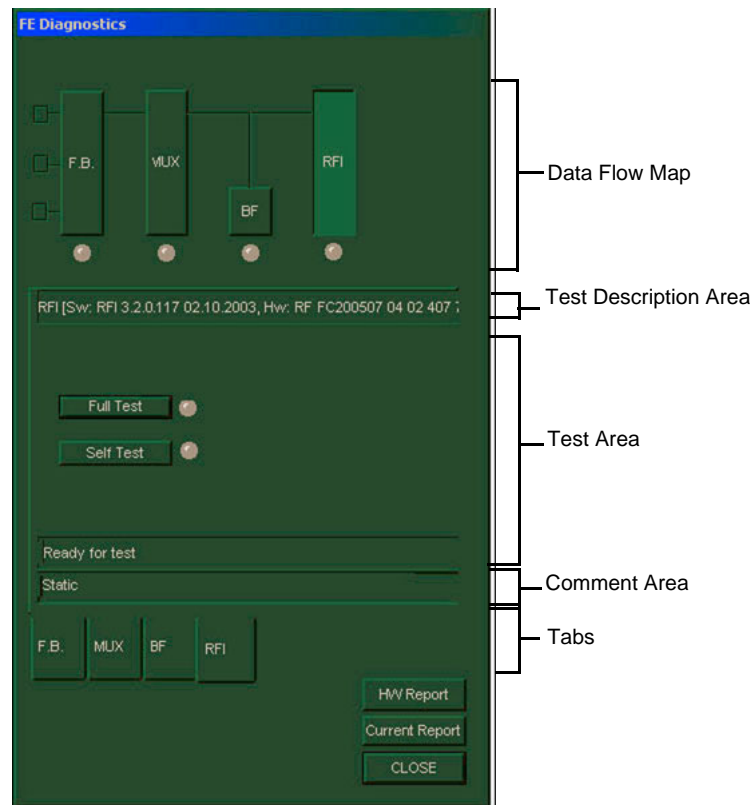
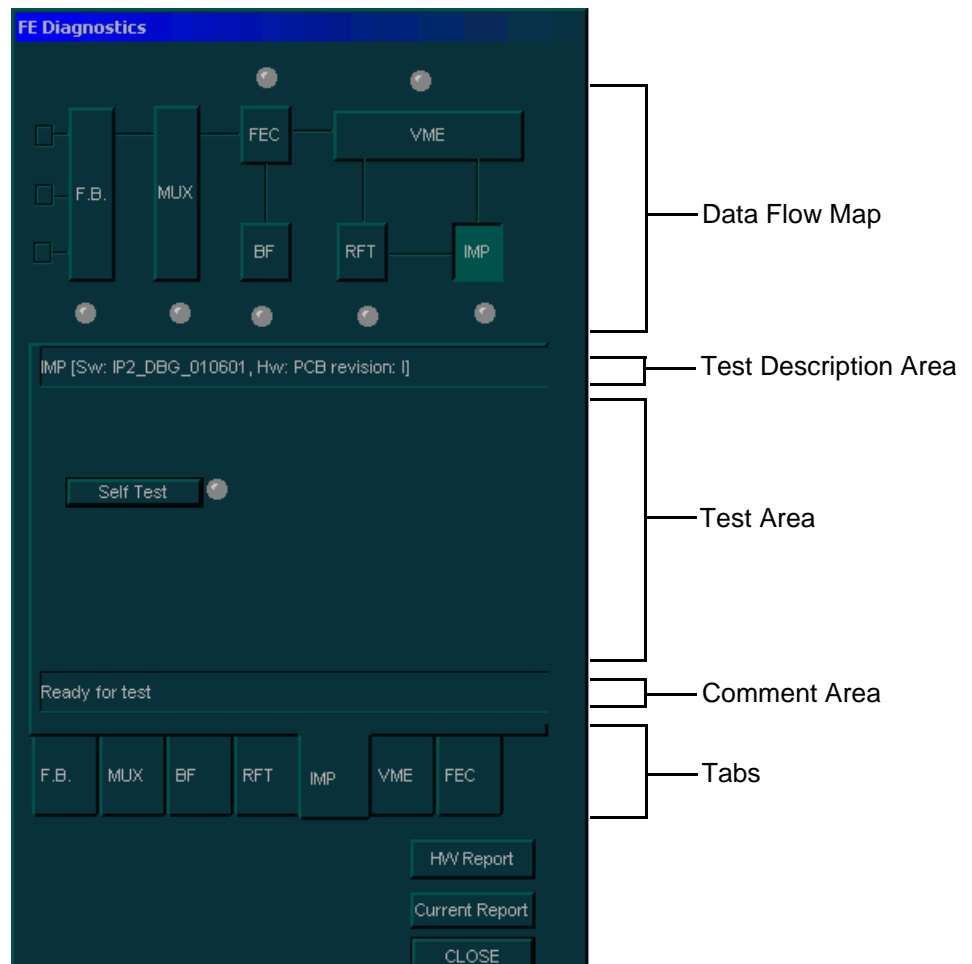

Figure 7-3 FE Diagnostics Dialog Box - RFI Configuration
Figure 7-4 FE Diagnostics Dialog Box - RFT Configuration
1.) In the Diagnostic menu, trackball to the Front End button and press Select. The FE Diagnostics dialog box is displayed, as shown in Figure 7-3 (or Figure 7-4) below: